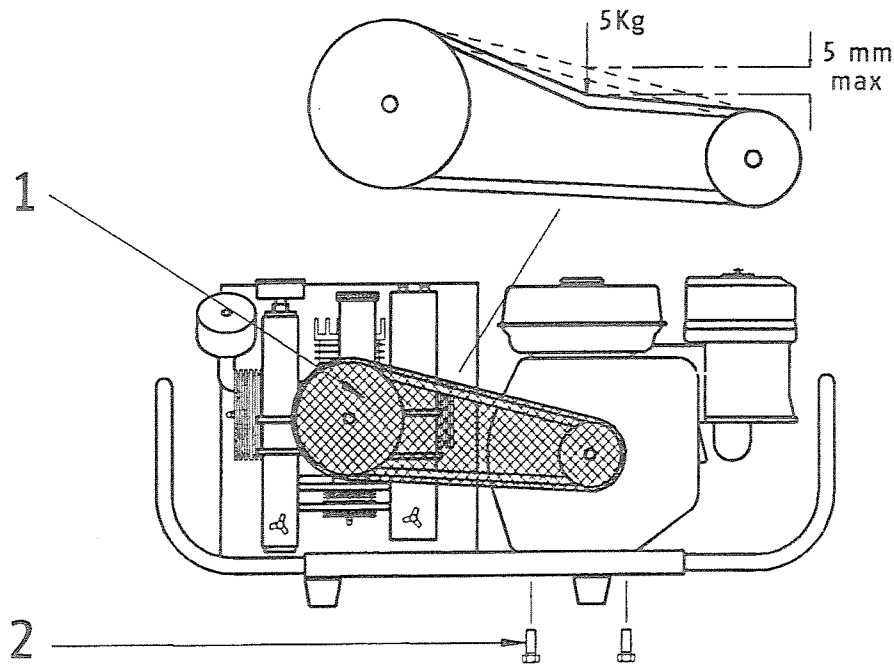

Fig. 13 Belt tension adjustment.
Make sure there is enough room between pulleys and shroud to avoid contact with the drive belt during compressor operation due to stretching after 30 hours. The belt flex should not be more than 1/4" when applying a force of 10 to the mid section of the belt, as shown in figure 13.
- 2) Check belt tension as shown in figure 13.